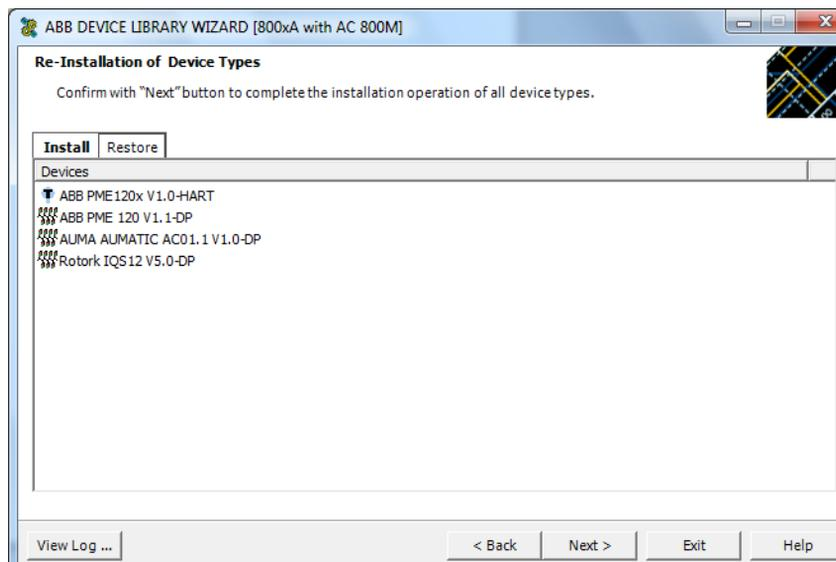

Figure 48. Install Device Types
- After successful extraction, the device types need to be reinstalled on the system node. Click **Next** (Figure 48).